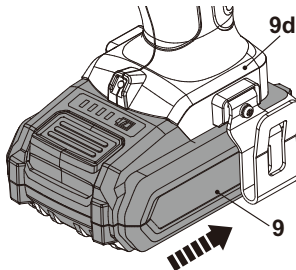

Fig. 2
1. Lock the on/off switch (5) to avoid accidental starting by moving the forward / reverse rotation control (4) into the centre position (see below section "Product functions – Forward / reverse rotation control").
2. Align the battery pack (9) with the sliding slots of the battery docking port (9d) and slide the battery pack in to attach it. Ensure it clicks in place (Fig. 2).